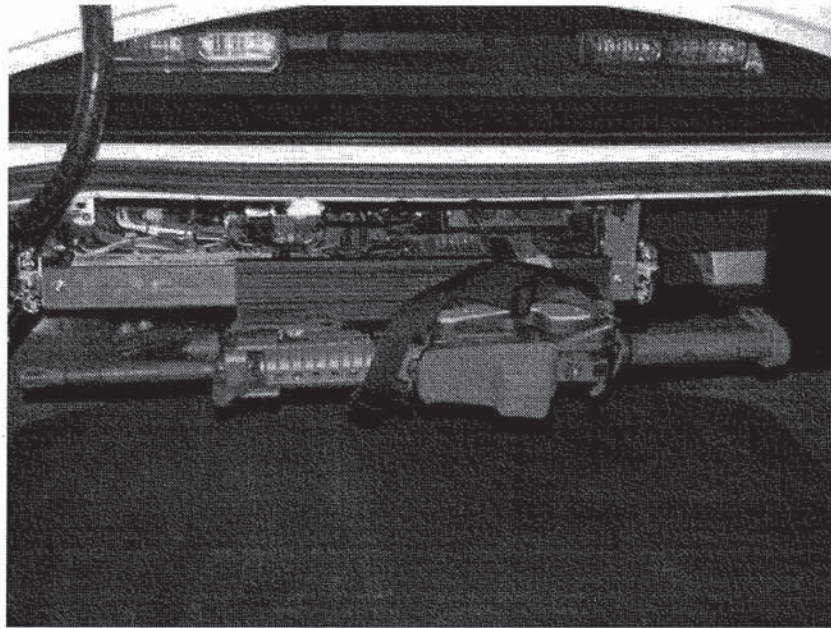

Figure 28 – Trunk tray installation (overall view)
39. Examples of equipment trays for a Ford Police Interceptor Sedan marked MP vehicle are illustrated at *Figures 28 and 29*.